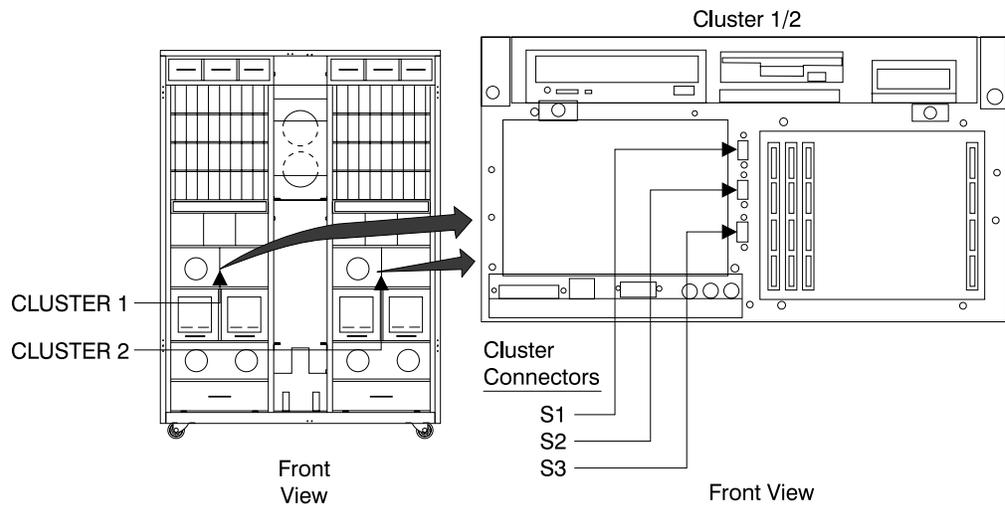

Figure 211. Cluster Bay Front Chassis Connector Locations (S008027m)
- Cluster Bay Front Chassis Connector Locations, Figure 211 on page 200